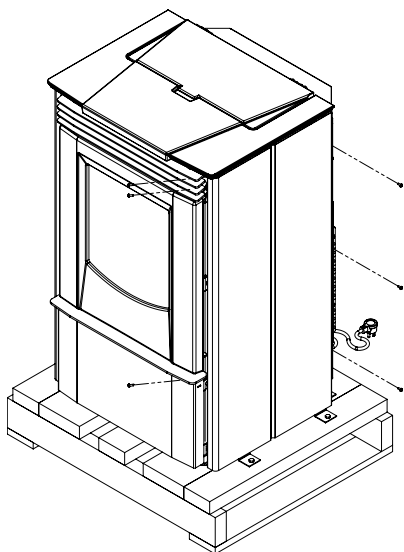

Figure 1: Cabinet Side Removal
3. Remove the six T-20 screws that fasten each cabinet side to the stove. See Figure 1.